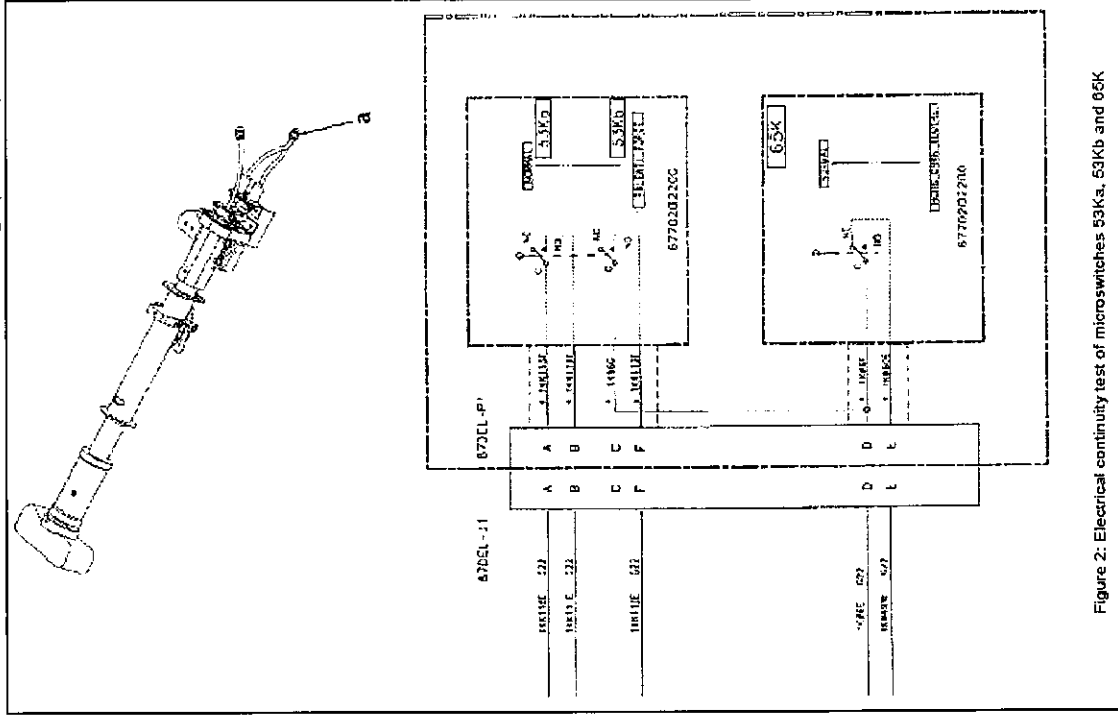

Figure 2: Electrical continuity test of microswitches 53Ka, 53Kb and 65K
5. Checking the IDLE and FLIGHT controls on the pilot's and copilot's twist grips (Figure 2) (i.a.w. EASB AS350-05.00.77 R2 para 3.B.4.)